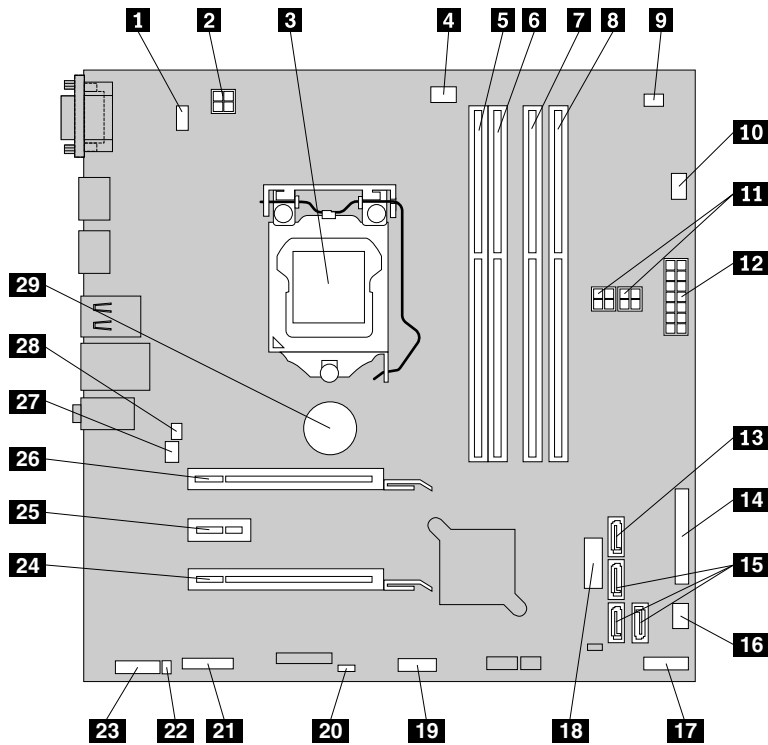

Figure 6. ThinkCentre M83 system board part locations
- Figure 6 “ThinkCentre M83 system board part locations” on page 16 shows the locations of the parts on the system board of the ThinkCentre M83 computer.